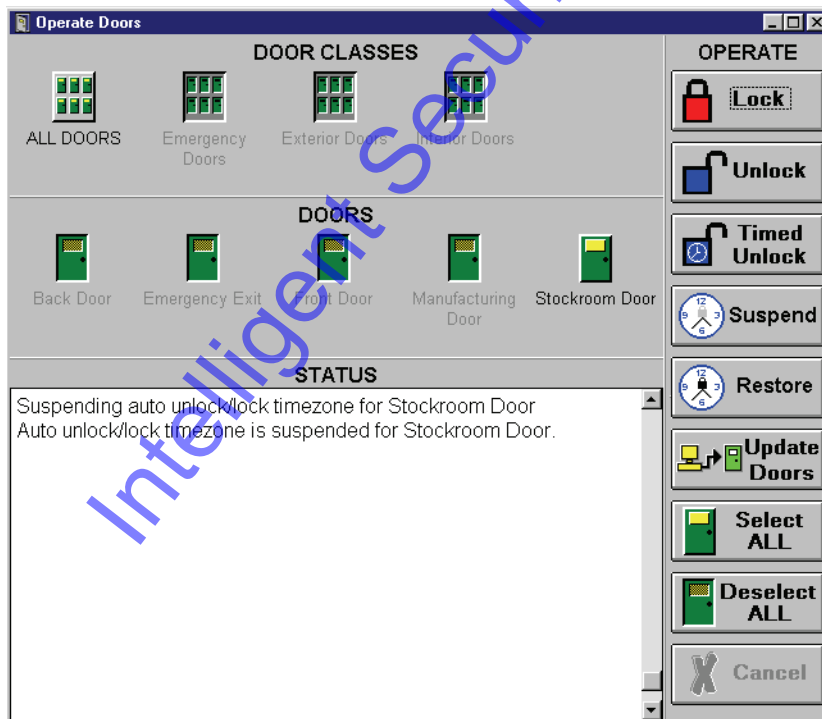

Figure 6-16: Suspending Auto Unlock/Lock on a Single Door
5. To proceed with the Suspension, click on the  **Yes** button. The resulting window should look similar to Figure 6-16.